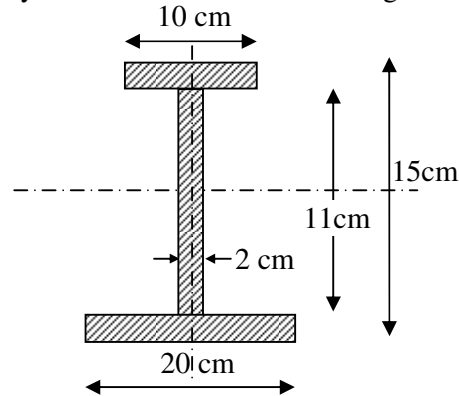

Figure 3
4. Find the Center of gravity of the I Section Shown in Figure 3.